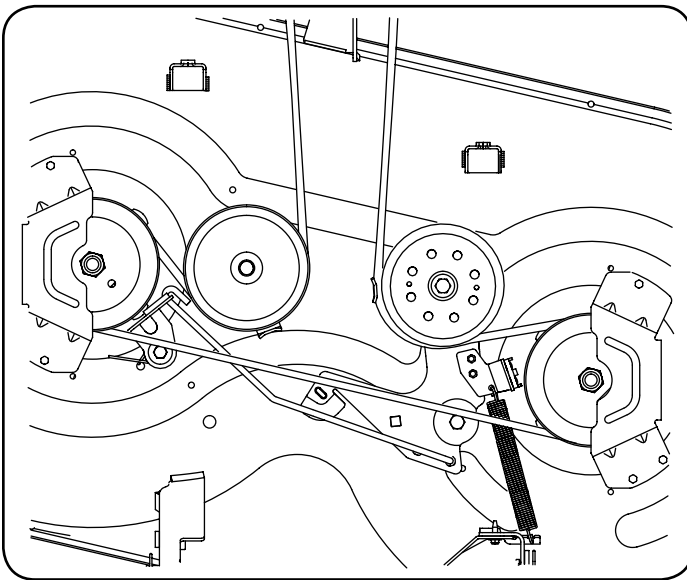
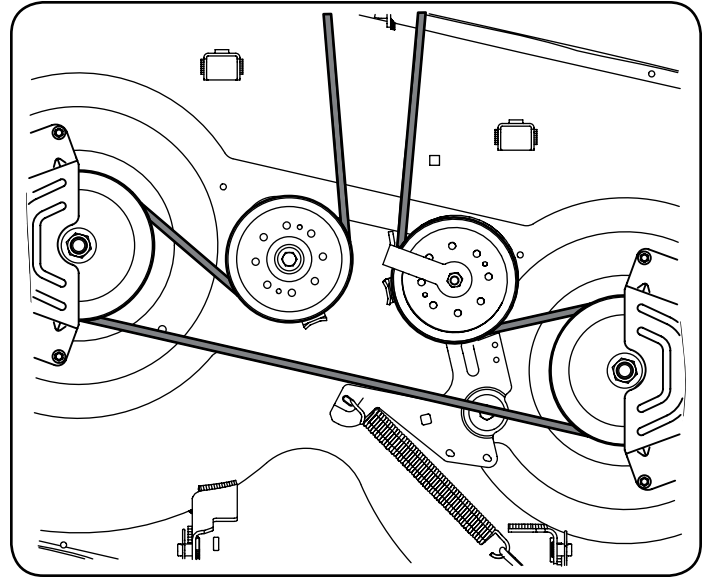
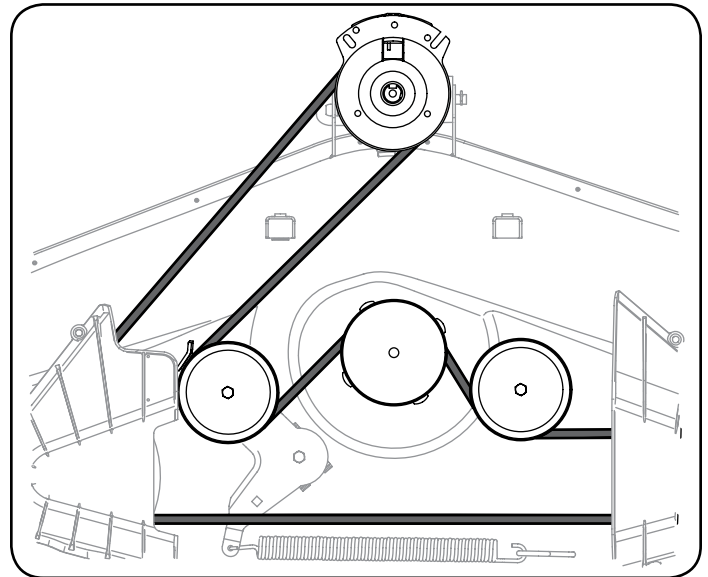

Figure 37
Figure 38
Figure 39
- Route the new belt as shown in Figure 37 for 42" Decks, Figure 38 for 46" Decks and Figure 39 for 50" and 54" Decks.